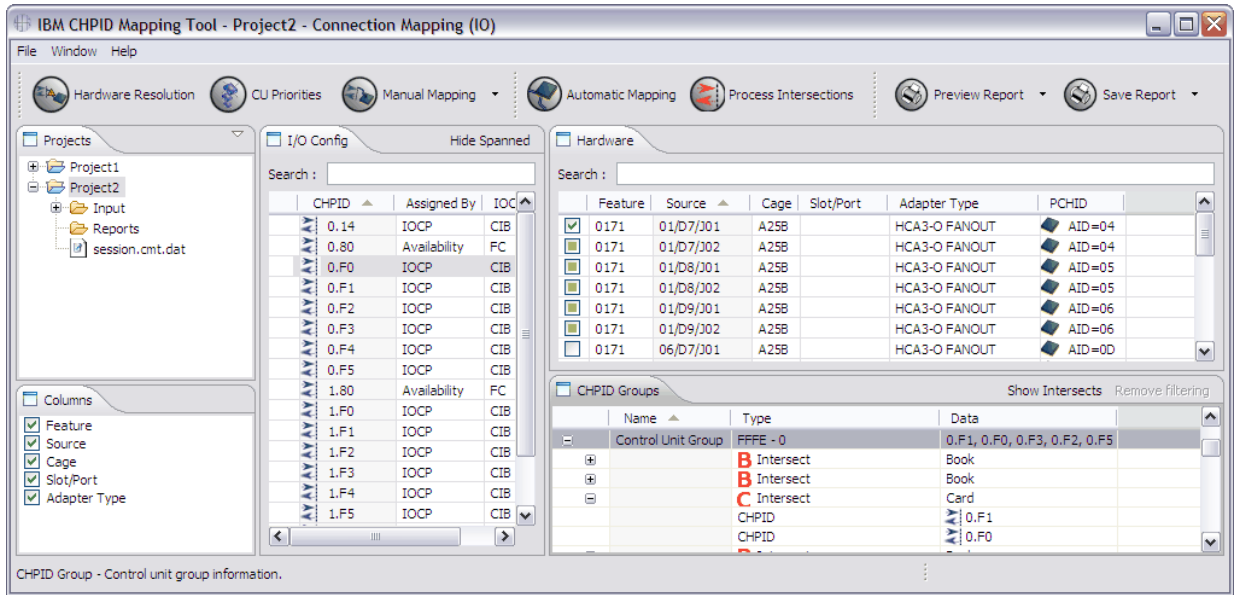

Figure 91. Original priorities and associated intersections
- If you have not already done so, display the CU Priorities view by clicking **CU Priorities**. Figure 91 on page 74 shows the originally assigned priorities and four associated intersections.